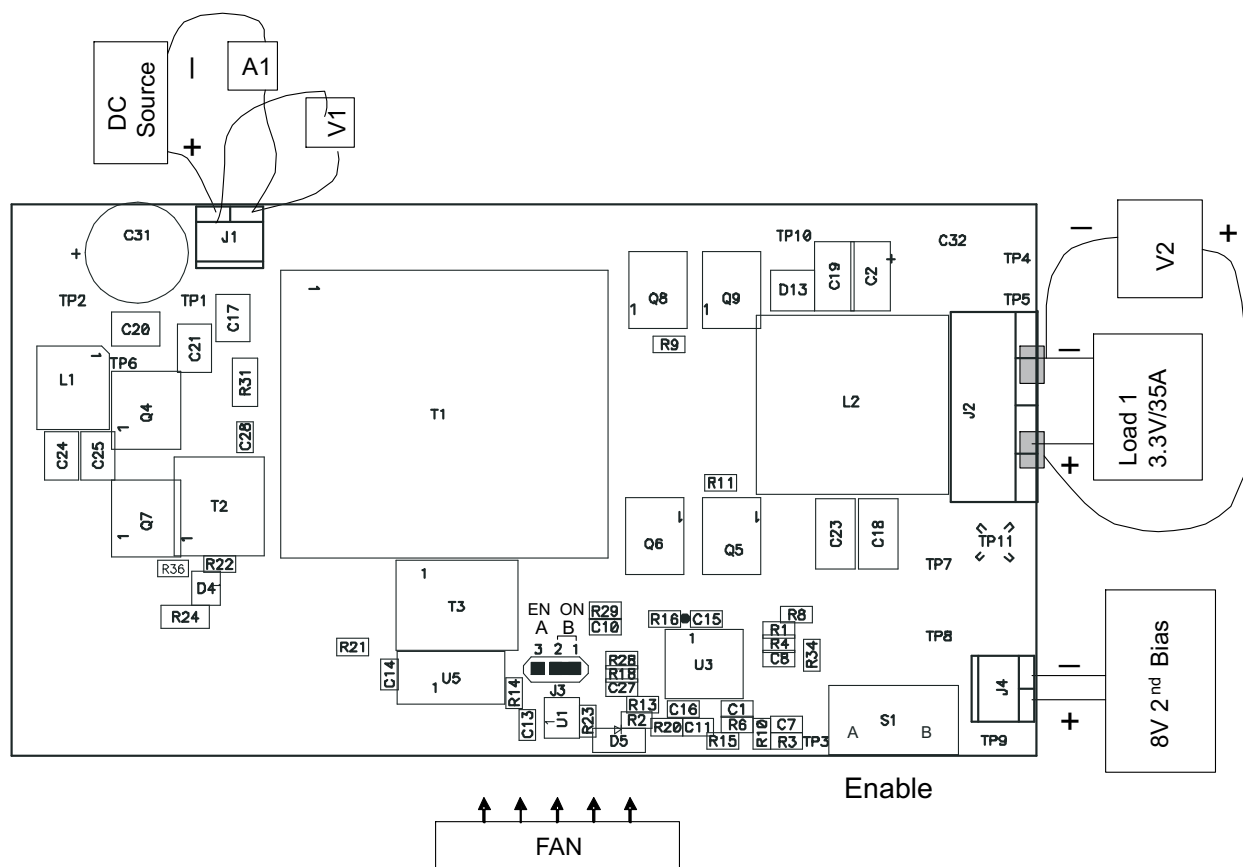

Figure 2. Recommended Test Set Up
Set up the EVM based on Figure 2.
3. Connect the ammeter A1 (0 A to 10 A range) between DC source and J1 as shown in Figure 2.
4. Prior to connecting the DC source, it is advisable to limit the source current to 4 A maximum. Make sure the DC source is initially set to 0 V and connected to J1 and A1 as shown in Figure 2.
5. Connect voltmeter, V1 across the DC source as shown in Figure 2.
6. Connect Load1 to J2 as shown in Figure 2. Set Load1 to constant current mode to sink 0 A_{DC} before the input voltage on J1 is applied.
7. Connect voltmeter, V2 to J2 as shown in Figure 2.